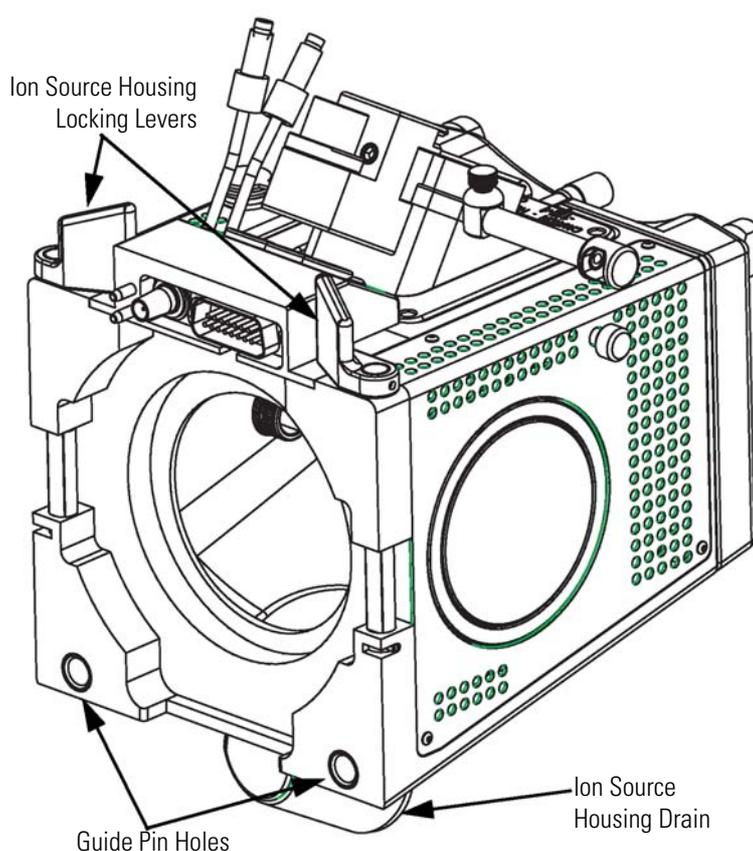
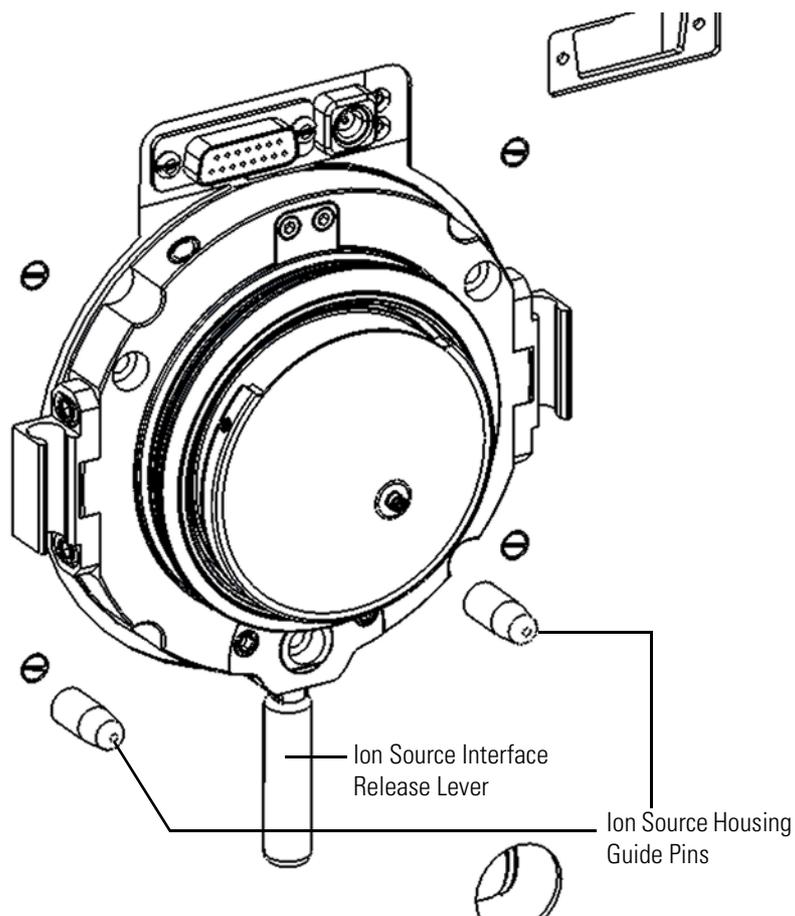

Figure 3-7. Rear view of the Ion Max ion source housing
Figure 3-8. Ion source mount showing ion source housing guide pins and ion source interface release lever
1. Carefully align the two guide pin holes on the rear of the ion source housing with the ion source housing guide pins on the mass spectrometer. Carefully press the ion source housing onto the ion source mount. See Figure 3-7 and Figure 3-8 on page 3-14.